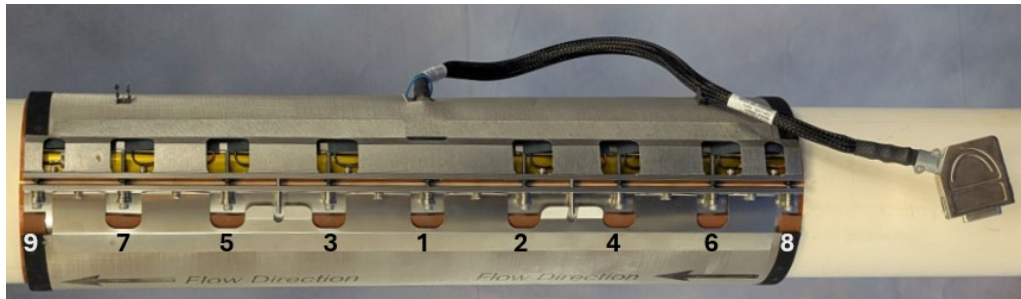
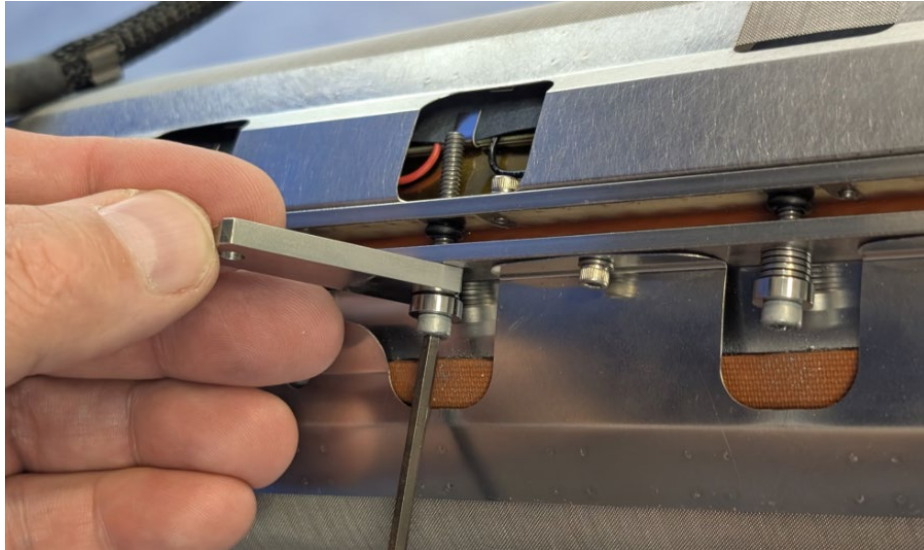

Figure 2-5: Sensor Band Screw Tightening Sequence
Figure 2-8: BAND Gap Gauge Tool Installed on Screw
The BAND screws use either a 7/64" (for #6 screw size) or 5/32" (for #10 screw size) hexagonal wrench (Allen key wrench). Refer to *Table 2-2* for size information. Start with the center most screw and tighten screws 3 - 4 turns at a time. **Important:** Alternate the sequence in which screws are tightened. Refer to *Figure 2-5* for the screw tightening sequence.
the gap gauge tool can still be removed. *Figure 2-8* illustrates use of the BAND gap gauge tool. Alternate from screw to screw using the screw tightening sequence shown in *Figure 2-5*.
1. Tighten screws #1 - 7 an additional one-half turn in the numbered sequence given in *Figure 2-5*. Do not tighten screw #8 & 9 (screws on either end of the BAND).
1. Starting at screw #1 in *Figure 2-5*, tighten each screw an additional one-half turn in the given numbered sequence.